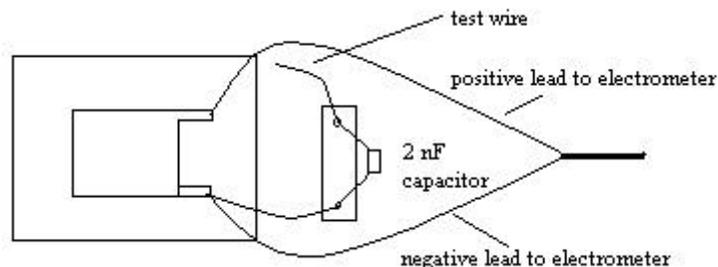

Figure 4: Capacitor test circuit
- At your lab station, find the small 2 nF capacitor. Connect one terminal of this capacitor to the negative tab of your capacitor. Connect another wire to the other terminal of the 2 nF capacitor, but do not yet connect it to your capacitor. We'll call this the "test wire". At this point, the circuit should look like *Figure 4* below.